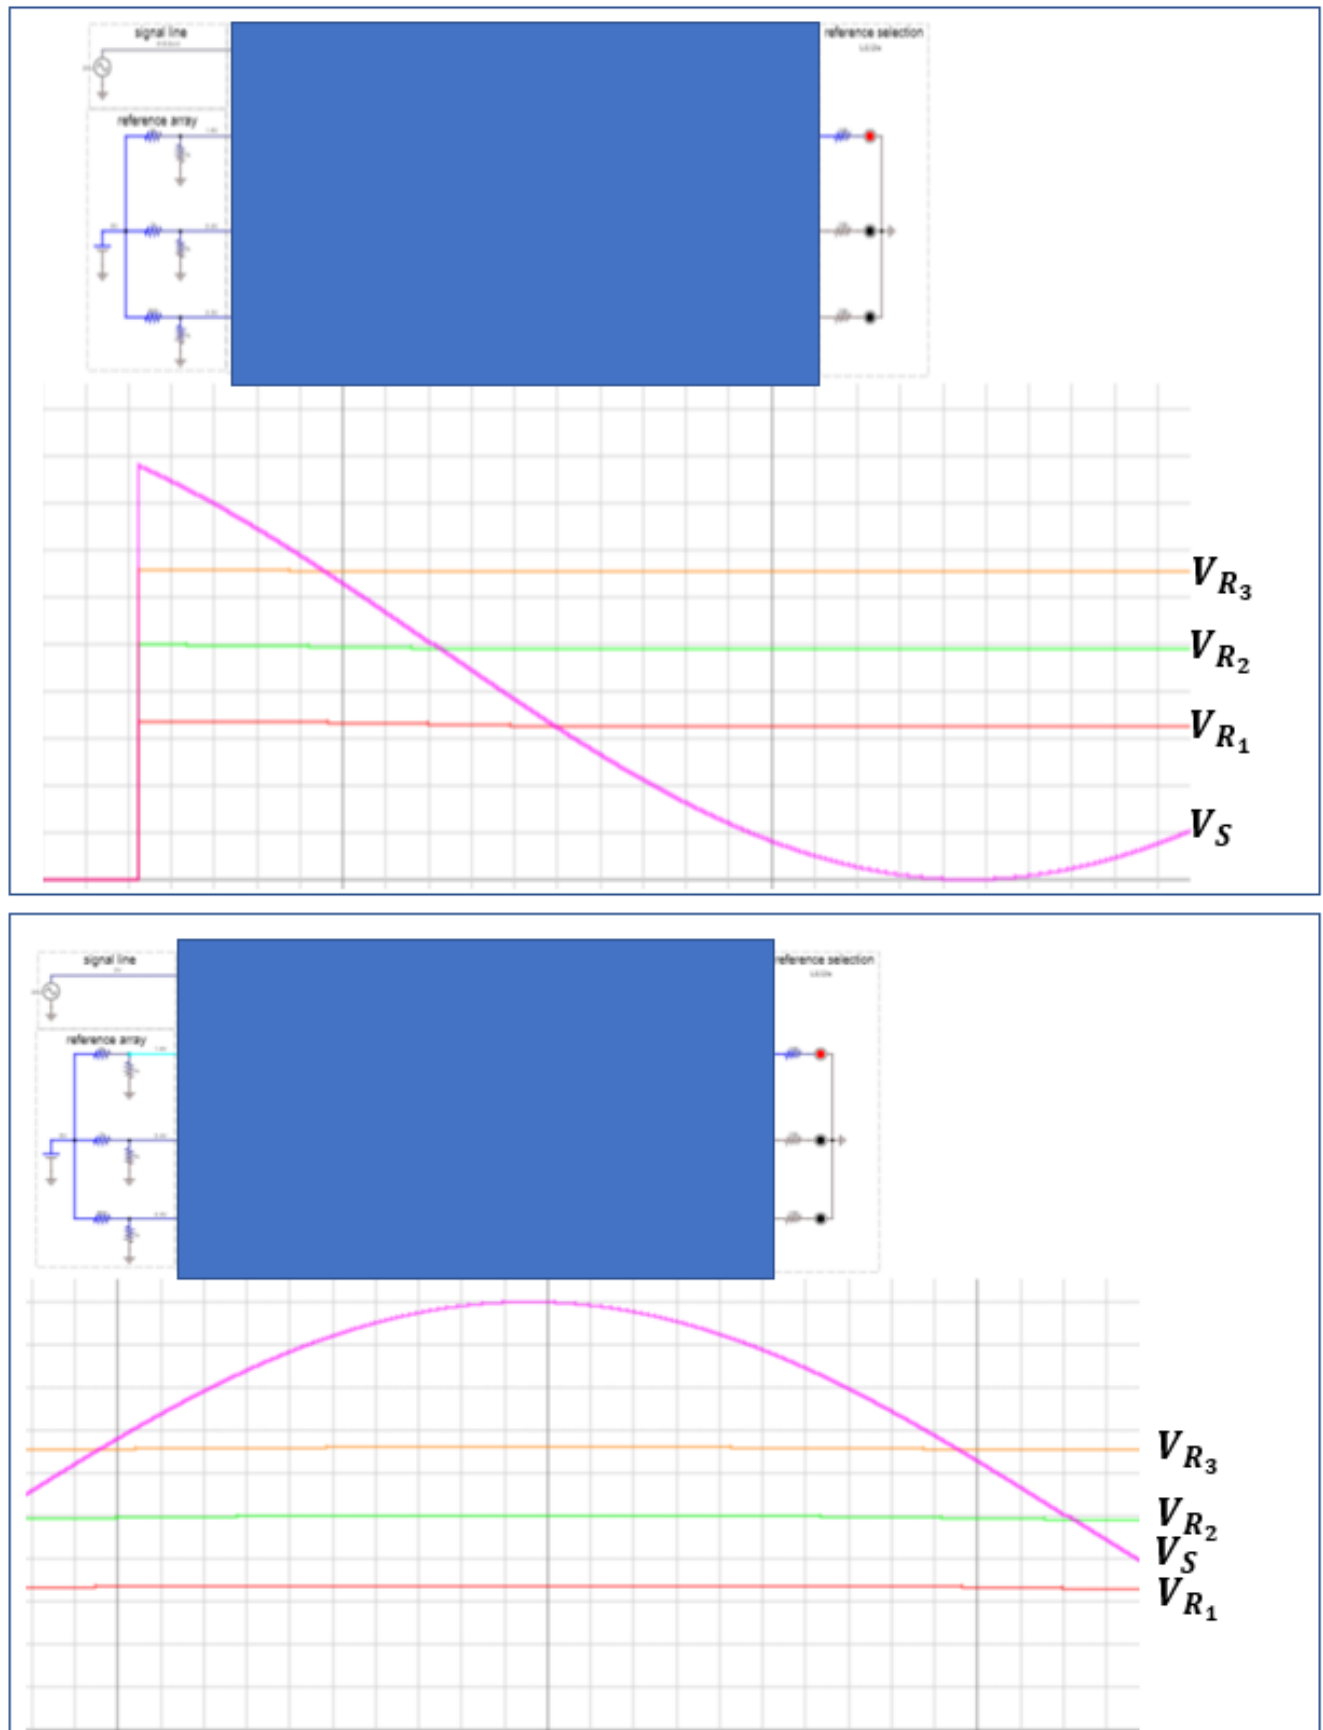
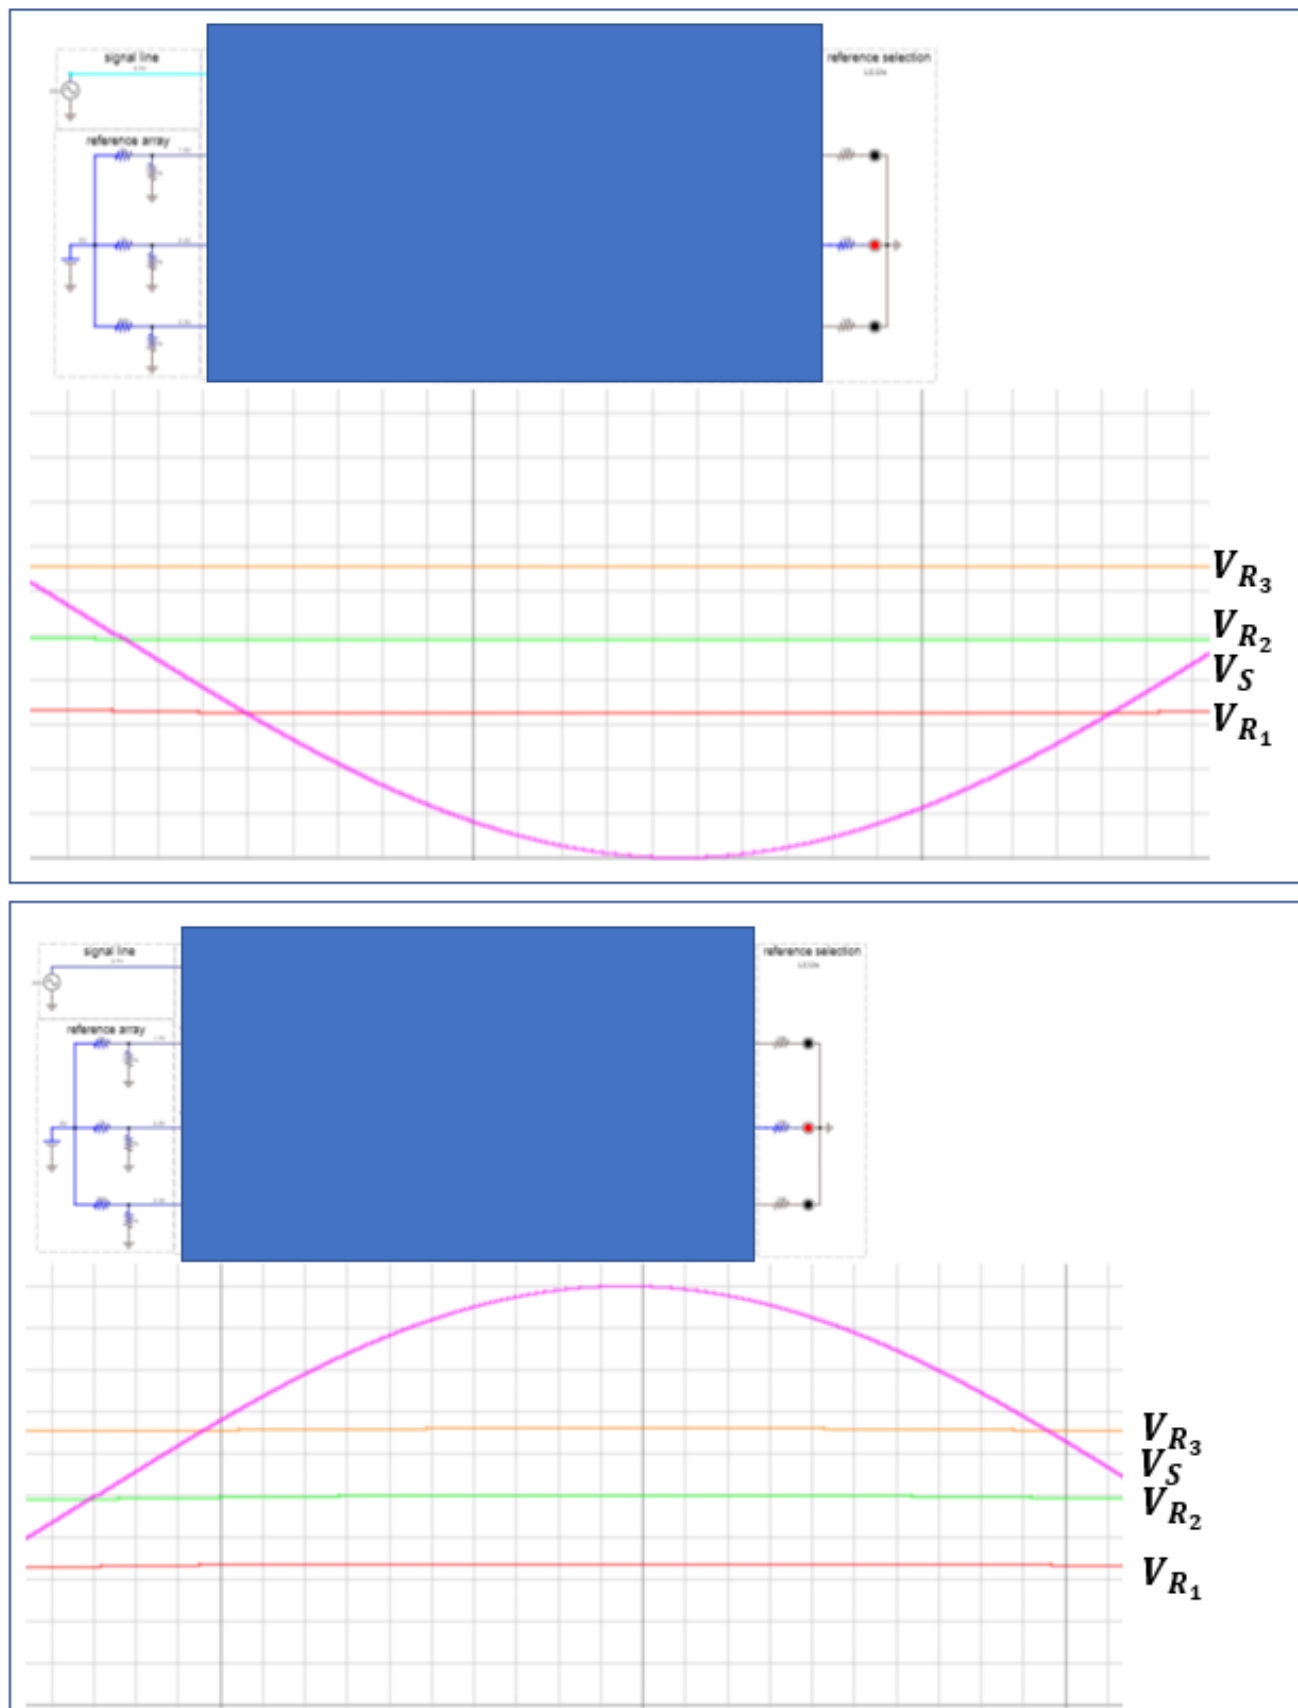
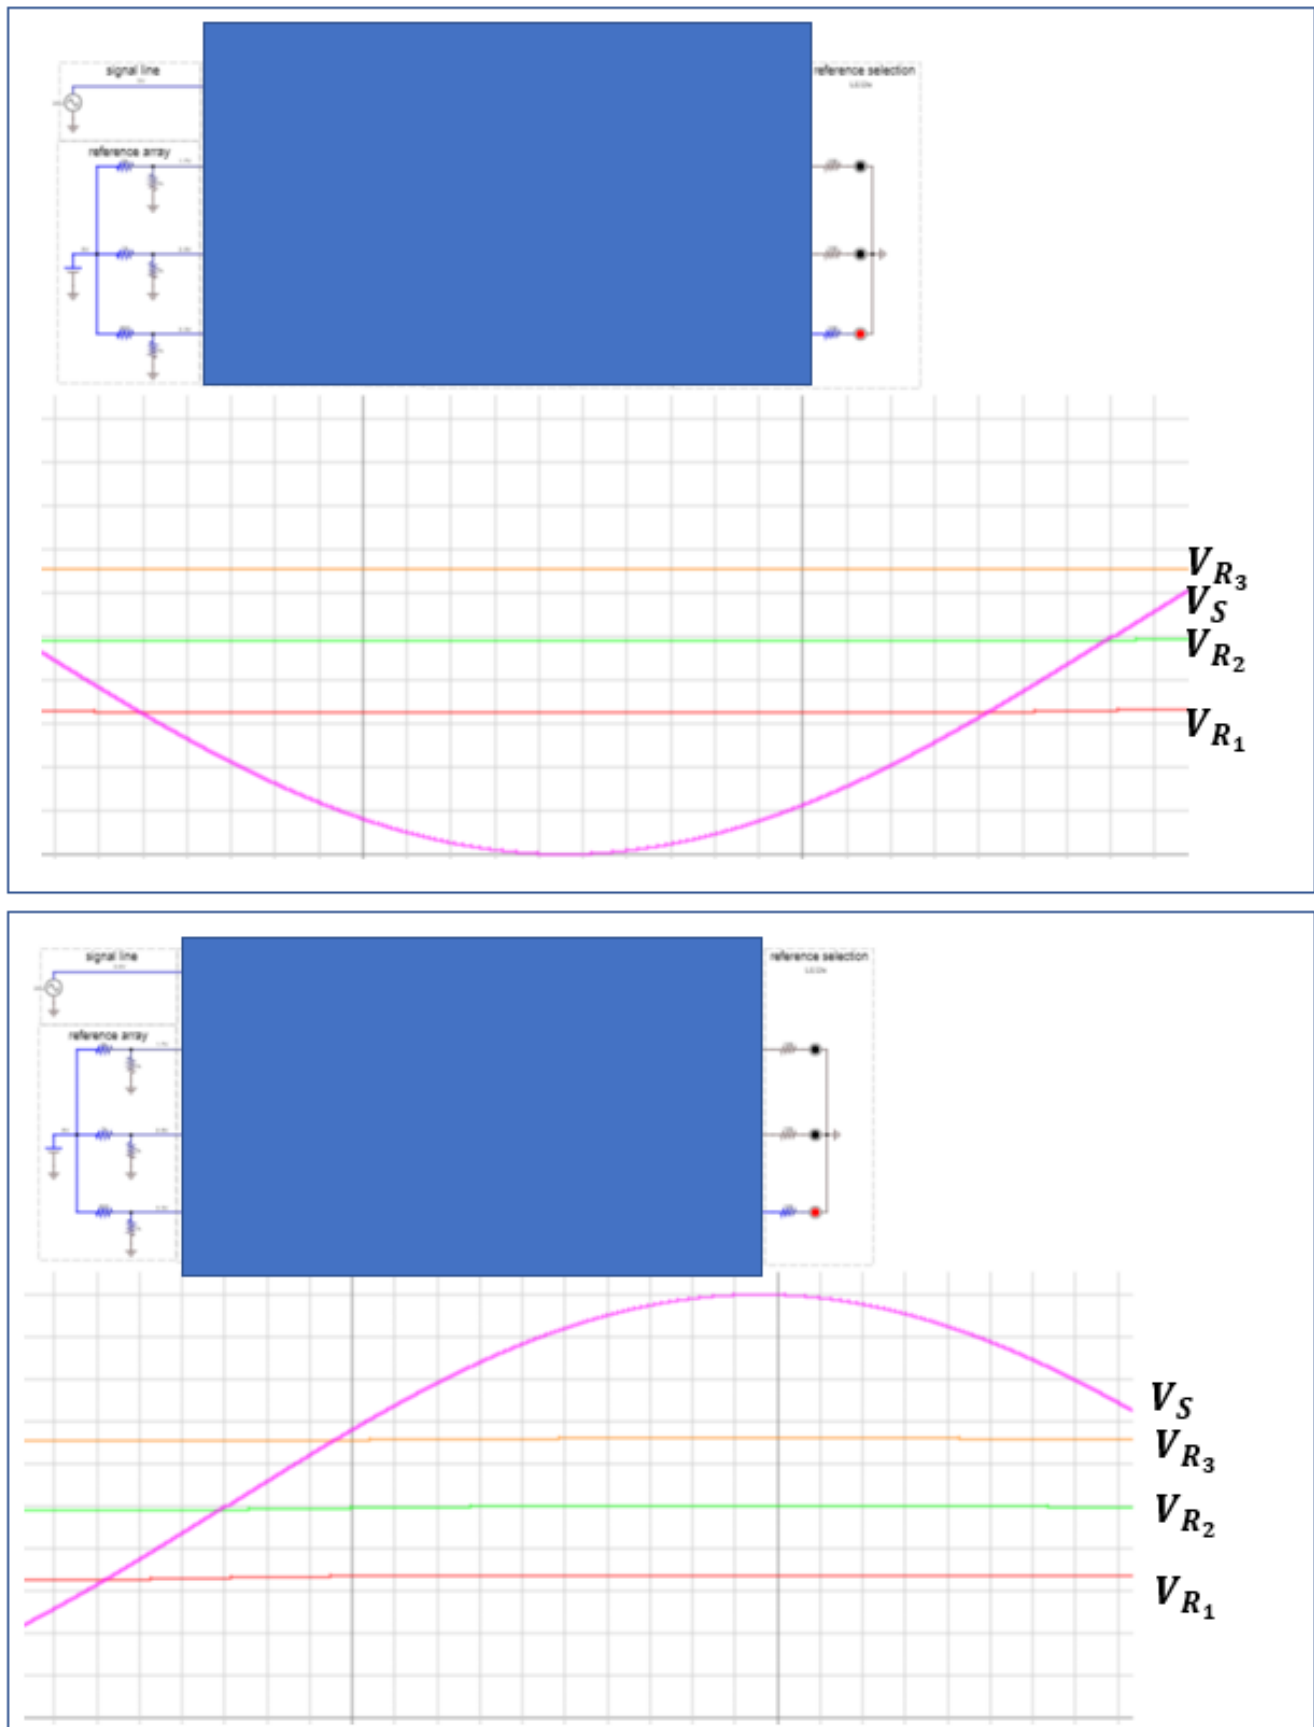

Figure 11 – Examples of Signal and References with D_{R1} high
Figure 12 – Examples of Signal and References with D_{R2} high
Figure 13 – Examples of Signal and References with D_{R_3} high
Create a network of analog signal operations and digital logic to solve the following problem. Given three constant reference voltages, ($V_{R_1}, V_{R_2}, V_{R_3}$), and an unknown voltage signal, V_S , determine which of the reference voltages are closest to the voltage of the unknown signal. You may use only the components presented in the hardware requirements section and may not use a microcontroller or software to solve this problem. The output of the circuit will result in turning one of the three digital indicator lines, ($D_{R_1}, D_{R_2}, D_{R_3}$) HIGH which in turn will light an LED. See **Error! Reference source not found.**, Figure 11, Figure 12, and Figure 13 for details.
1. Measure the time it takes for your circuit to switch digital indicator lines. For example, starting at the instant that V_S becomes closer to V_{R_1} than to V_{R_2} (as in bottom of Figure 11), how long does it take for D_{R_2} to go LOW and D_{R_1} to go HIGH. Capture this transition using analog probes.